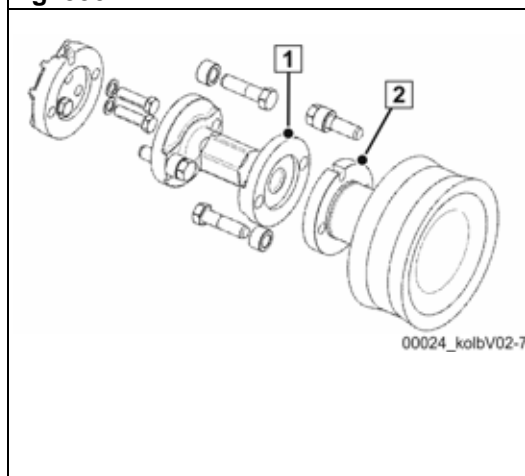

Fig. 332
- Connect the piston rod flange (1) to the pumping piston flange (2) using a screw and nut as shown in (Fig. 332) / (Fig. 333).